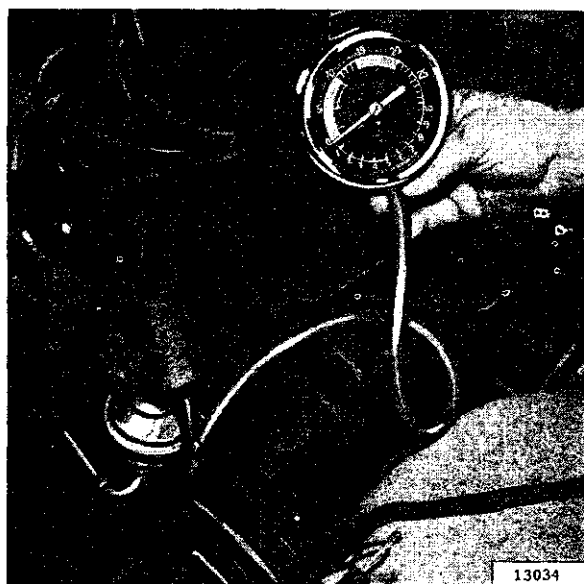

FIG. C-22—CHECKING FUEL PUMP PRESSURE—
a. Fuel pump pressure is important, for low pressure will seriously affect engine operation and high pressure will cause excessive fuel consumption and possibly flood the carburetor. Should there be any doubt of normal operation, check the pressure with a gauge as shown in Fig. C-22. The minimum and maximum allowable pressures are $2\frac{1}{2}$ to $3\frac{3}{4}$ lbs. [0,176 a 0,264 kg-cm²], for the Hurricane F4 engine. Fuel pump pressure at carburetor (inlet) on the Dauntless V6-225 engine should be $3\frac{3}{4}$ lbs. [0,264 kg-cm²] minimum at specified R.P.M. idle with the vapor return hose squeezed off. With the vapor return hose open pump pressure should be $2\frac{1}{2}$ lbs. [0,176 kg-cm²] minimum.